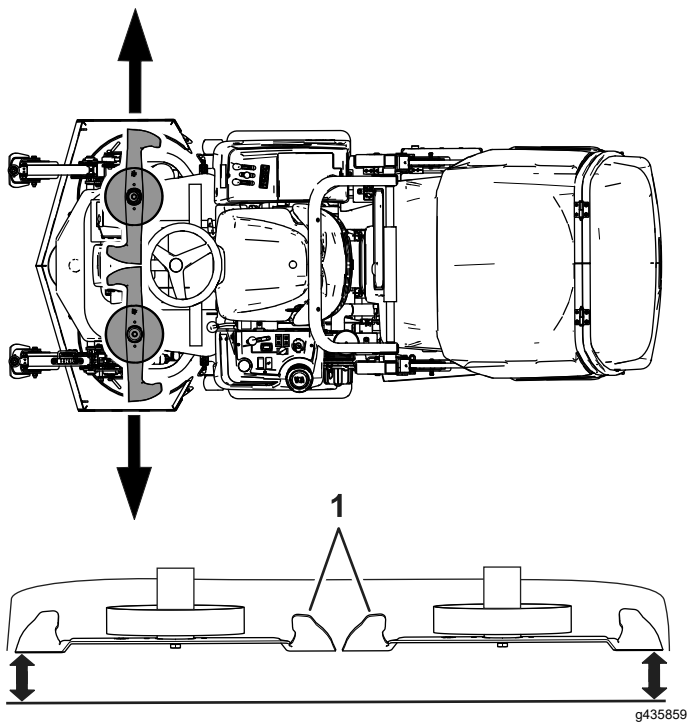

Figure 102
3. Align a wing blade to the outermost position (Figure 102).
4. Measure the distance between the ground and the outermost point of the cutting edge of the blade (Figure 102).
5. Align the wing blade at the other side of the cutting unit to the outermost position (Figure 102).
6. Measure the distance between the ground and the outermost point of the blade cutting edge with a gauge block (Figure 102).
8. Measure the outermost point of the blade cutting edges (Figure 102).